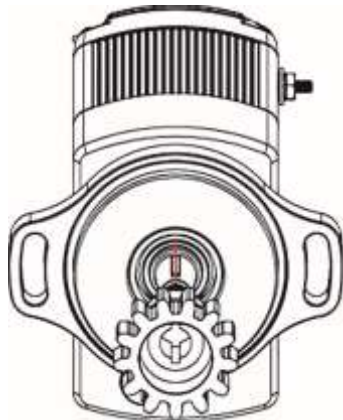

Figure 5
NOTICE: The drive gear fits on the EIS shaft in one of two orientations. A normal installation (Figure 5) will align a gear tooth valley with the woodruff key on the EIS shaft.
- (a) Install the drive gear (magneto gear) on the EIS driveshaft in the normal orientation (Figure 5).